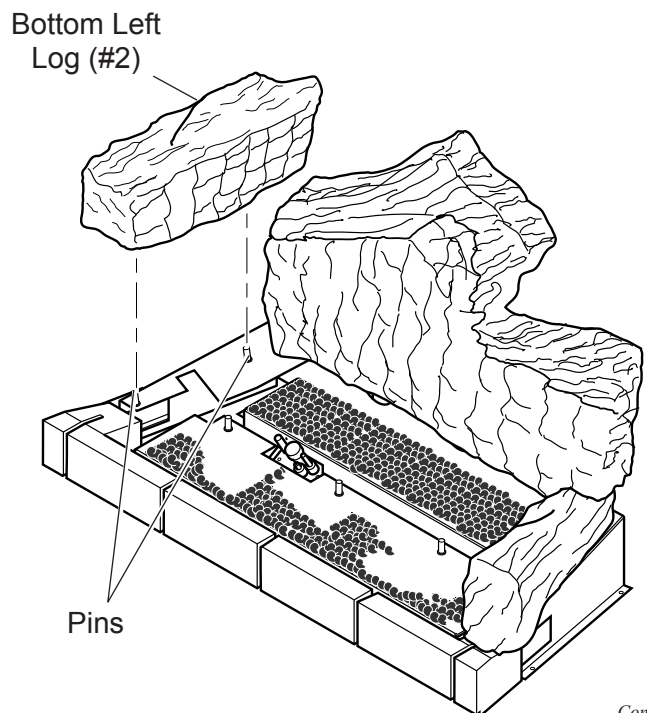

Figure 50 - Installing Bottom Left Log (#6)
6. Place bottom left log (#2) on two pins against left side of firebox. *See Figure 50.*